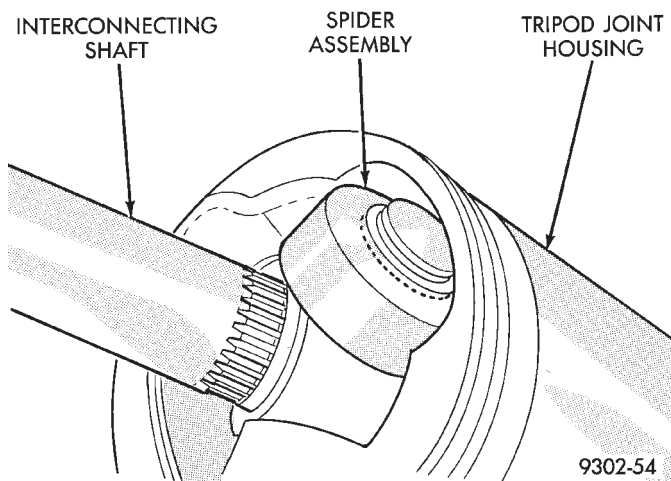

Fig. 3 Spider Assembly Joint Removal From Housing
(3) Slide the interconnecting shaft and spider assembly out of the tripod joint housing (Fig. 3).